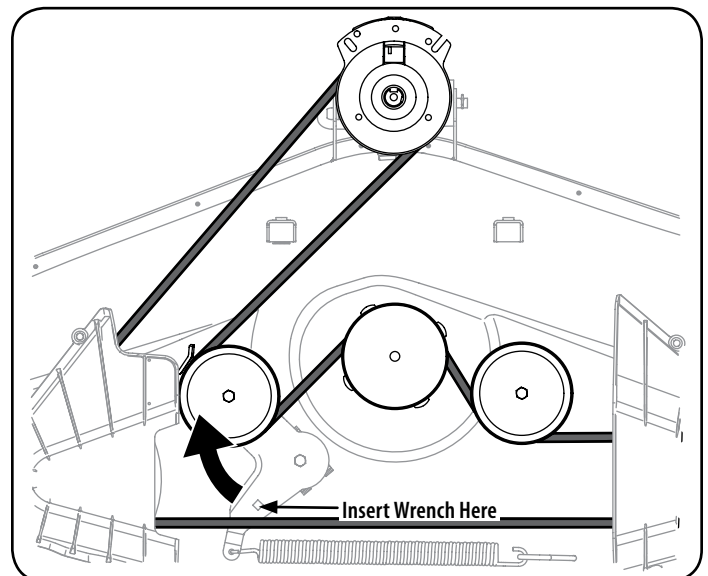

Figure 29
- c. Working on the right side of the tractor, insert a  $\frac{3}{8}$ " drive ratchet wrench, set to tighten, into square hole found on the idler bracket. See Figure 29.
2. Use the wrench to pivot the deck drive pulley forward. See Figure 29.